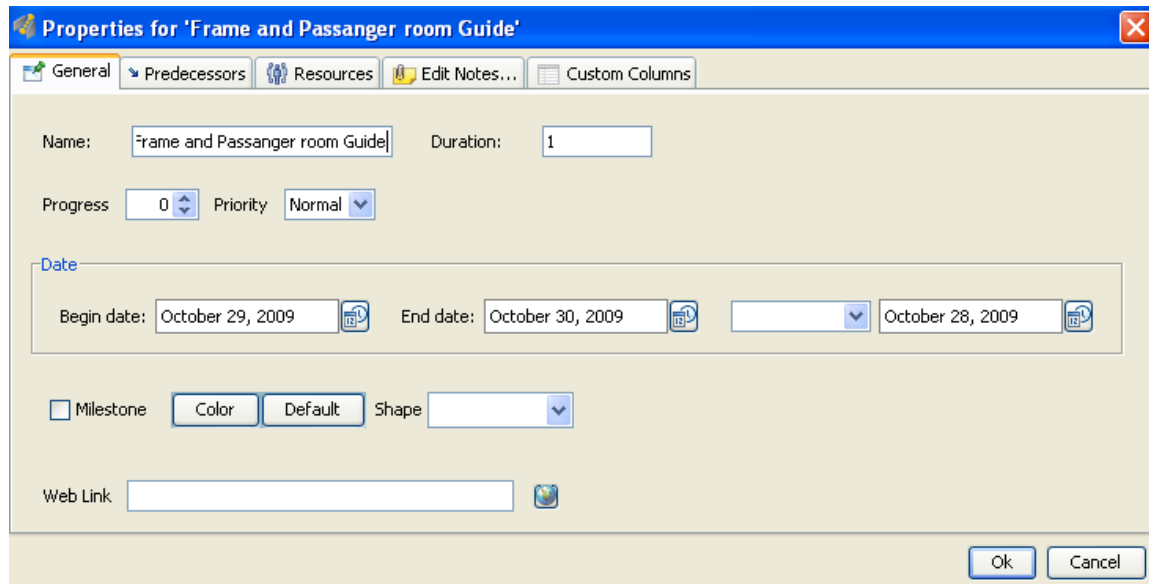

Figure 4.15: Shows a GanttProject Properties dialog box for task.
5. With the **Frame and Passenger room Guide** task still selected, click the **Task Properties** button in the toolbar to display the Properties dialog box as shown in figure 4.15. Notice that the name you specified for the task in step 5 displays in the Name text box.